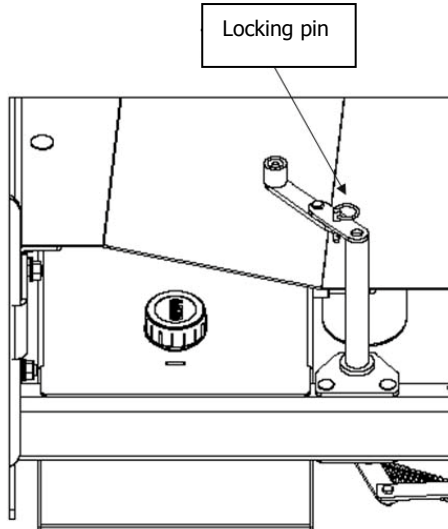

Figure 8 – Engine idol control lever
3. Remove the pin from the idol control of the engine. The engine will then run at top speed (Figure 8).
6. When you have finished moving the wrapper, replace the pin in the idle control handle (Figure 8). This will allow the automatic control of the engine again.